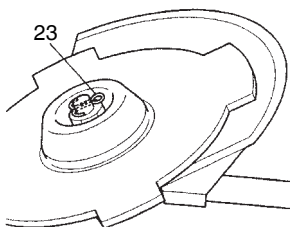

Fig. 19
- When installing cutter holder cap (20), be sure to set concave side upward.
- Insert the alien wrench (19) into the hole of the angle transmission in order to lock the cutter holder (21). Please note that the cutter fixing bolt or nut (22) has left-handed threads, (clockwise to loosen/ counter-clockwise to tighten). Tighten the fixing bolt or nut with the box wrench.
- If your unit is of a nut securing type and equipped with a cotter pin, the blade must be retained with a new pin (23) each time installed. (Fig. 19)